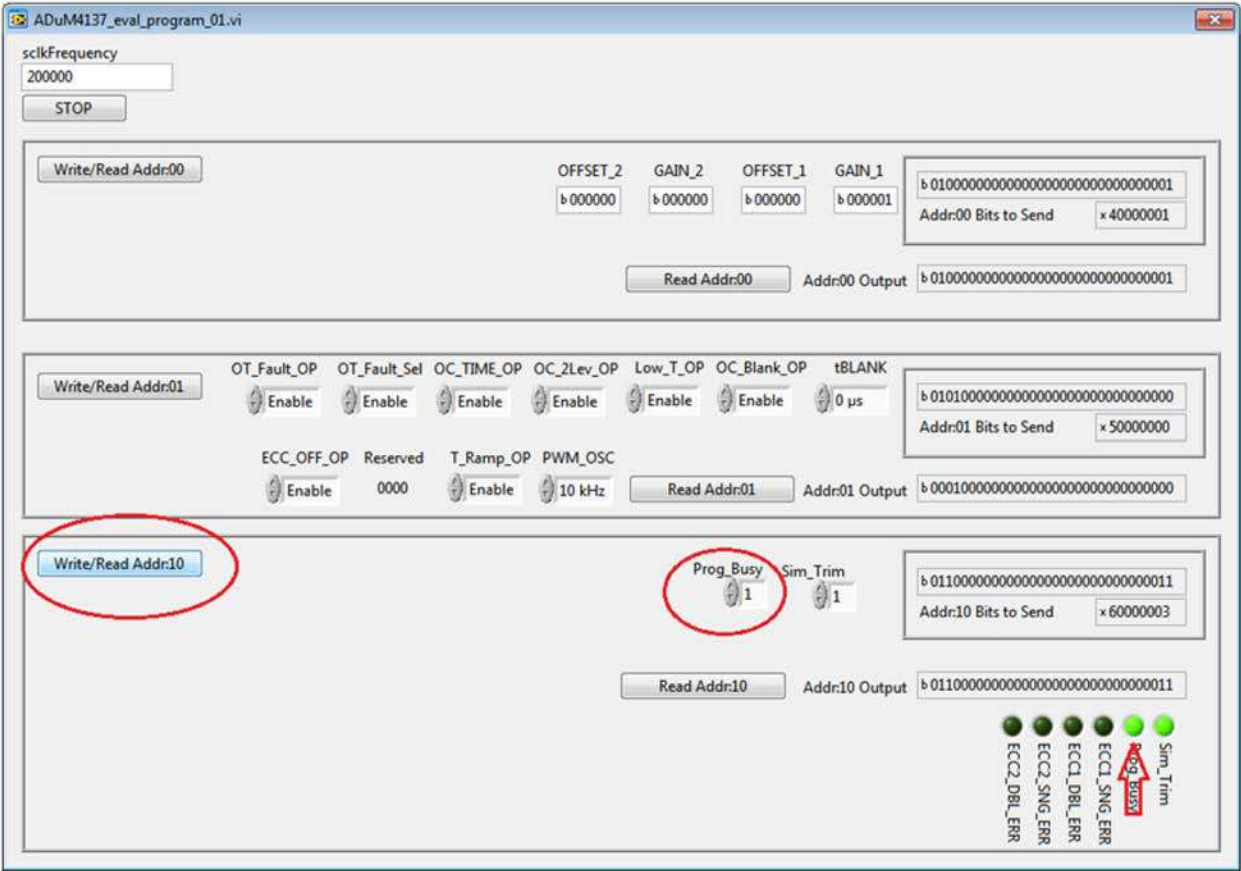

Figure 14. Programming the EEPROM
1. Set the **Prog_Busy** field to 1 and then click **Write/Read Addr:10** (see Figure 14). The **Write/Read Addr:10** button performs a write, and then performs a read. The **Prog_Busy** green indicator lights up because the read command occurs quickly after the write, and the PROG_BUSY bit in the ADuM4137 is 1 while the device is being programmed.